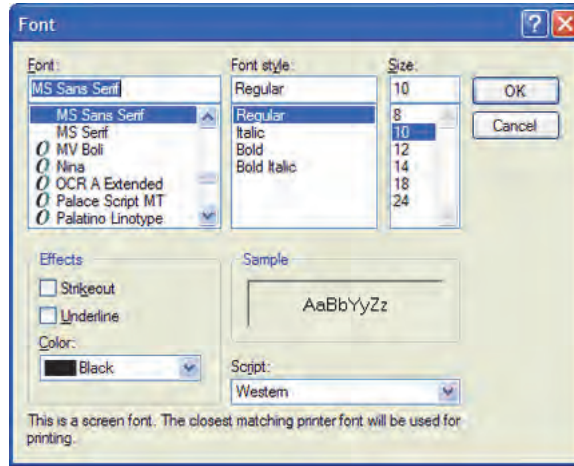

Figure 4-6. Font Dialog Box
Click the **Font** button (A) to change the font used in the procedure. This will bring up the font dialog box shown in Figure 4-6.